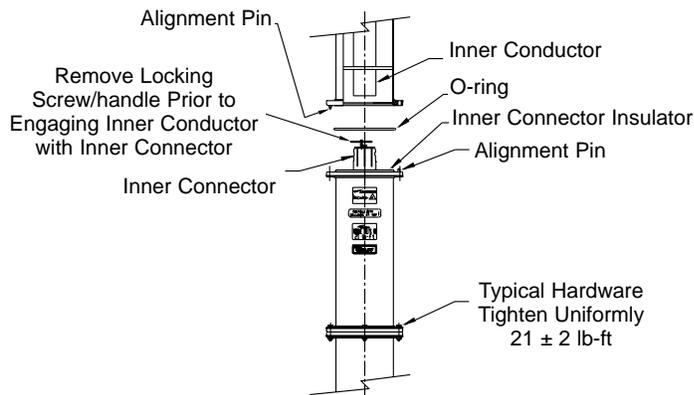

Figure 3
- 4 Remove lockout screw/handle from previously installed section. Align inner connector bullet from previously installed section with inner conductor, see Figure 3. Mate bullet with inner conductor and keep aligned. Align flange pin with corresponding flange alignment hole and mate flanges. Verify flange insulator is properly seated in appropriate flange groove. Firmly push flanges together while checking that O-ring remains in correct position.